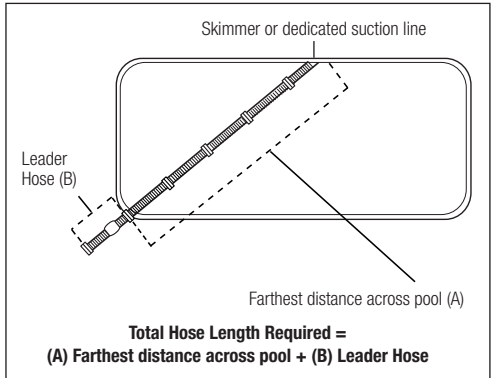

Figure 5. Determine Correct Hose Length
1. Measure enough hose to reach the farthest point of the pool from the skimmer or dedicated suction line. Remove any additional hose sections, as necessary. See (A) in Figure 5, below.
2. Next attach the leader hose (b) to the end where the cleaner head will be connected. See (B) in Figure 5 below. The extra length allows the cleaner to reach the far point in the pool if a loop forms while in operation.